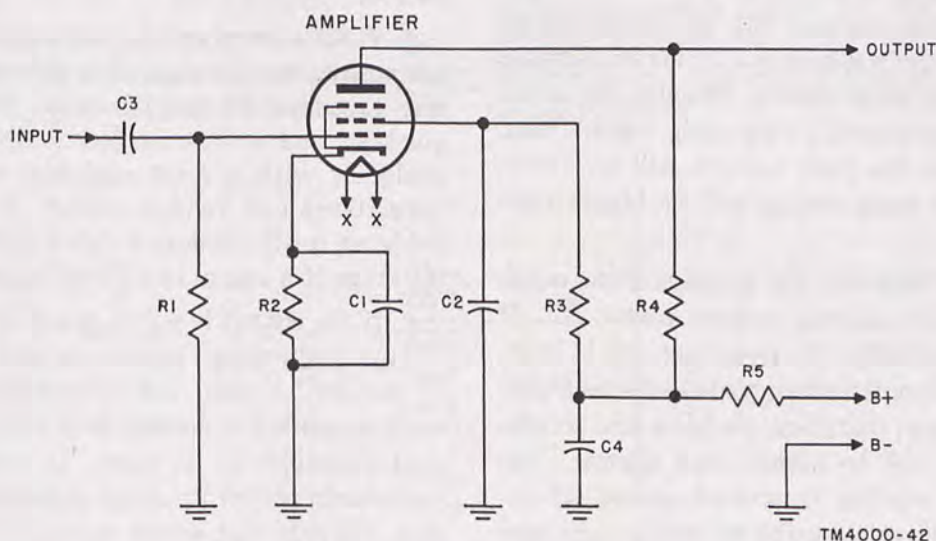

Figure 50. Audio amplifier circuit.
a. The circuit in figure 50 contains the component parts referred to in this paragraph. Most troubles encountered are due to failure in circuits where dc is present. This means that the trouble can be located by voltage and resistance measurements.
voltage will be below normal because the drop across screen dropping resistor R3 is greater than the normal drop. Figure 50 shows that the plate voltage is applied through resistors R4 and R5. Move the meter hot test prod to the other side of R5. If the reading is zero, R5 is probably open, or C4 is shorted. A resistance check will verify this. If the reading is about normal, move the test prod to the plate again. A voltage reading on one side of R4 and none on the other means that R4 is probably open. A resistance check completes the test. Refer to paragraph 79 for checking resistors.